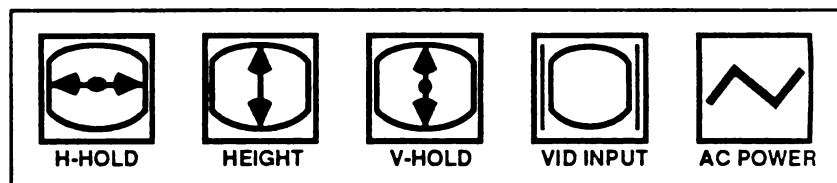

FIGURE 2
- 5.5 CRT, Main Logic Board, and Transformer (Figure 2)
Figure 2 shows the international symbols that identify the other controls and sockets on the back.